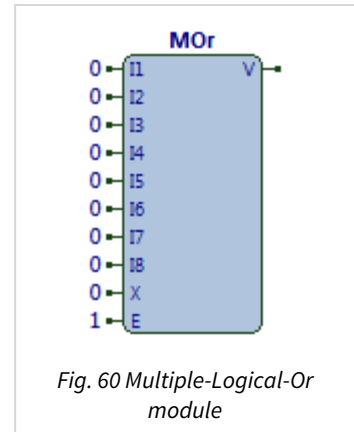

Fig. 60 Multiple-Logical-Or module
The MOr module (Fig. 60) performs the logic operation to determine whether any of its specified inputs are set non-zero. It performs the logical or operation (OR).